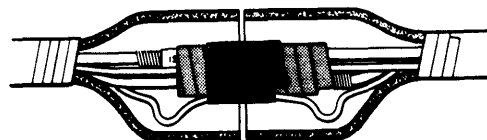

Fig 18b
- c. Tape the heat tape connectors to the taped air and fluid hoses connectors, making sure the heat tape is still bent to take up slack on both sides of the connectors. Do not tape the heat tape wires as they must be able to move slightly to prevent strain on the connector wires. See Fig 18b.